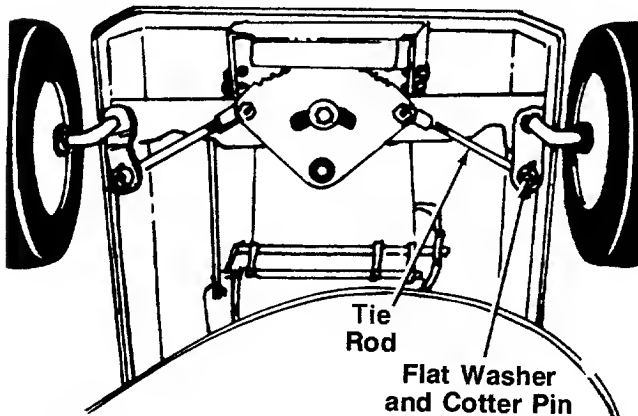

FIGURE 7.
The caster (forward slant of the king pin) and the camber (tilt of the wheels out at the top) require no adjustment. Automotive steering principles have been used to determine the caster and camber on the mower. The front wheels should toe-in  $\frac{1}{8}$  inch. See figure 7. To adjust, follow these steps:
1. Remove the cotter pin and flat washer which hold the tie rod to the axle bracket. See figure 7.